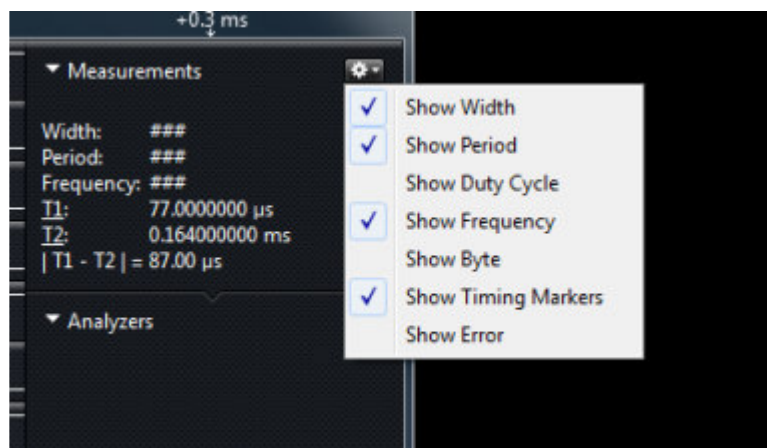

Figure 29 – Measurement Setup
- Click setup icon of the Measurements window (see Figure 29) and make sure the followings are checked. This setting allows you to display the measured time period between pulses.